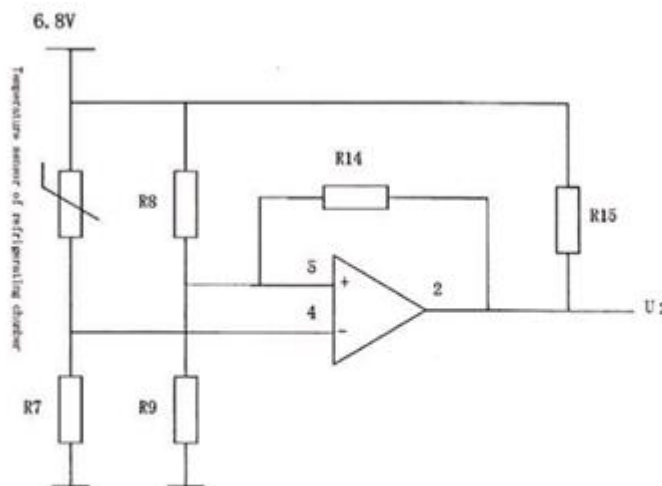

Fig. 6-5: Start-up Temperature Detection Circuit of Compressor
(2) **Startup temperature detection circuit.** As indicated in Fig.6-5, in the control circuit of GR-204E refrigerator, the power comparator composed by chip LM339N operational amplifier, by comparing the fixed voltage acquired by the above output of temperature detection cct U_{R7} and R8 and R9, the working state of relay RY01 in refrigerating compressor can be